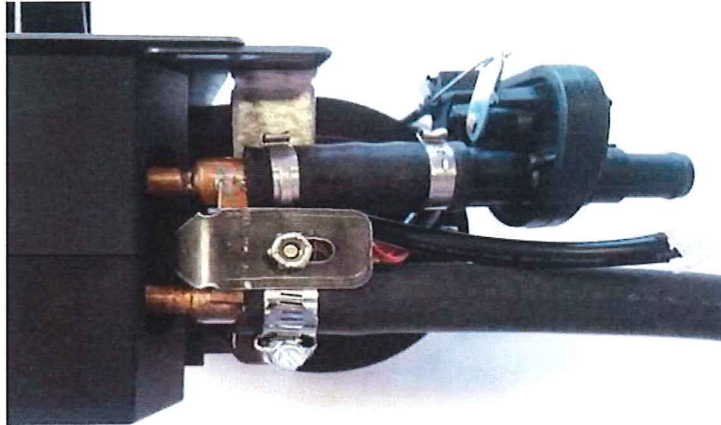

Figure 7
31. Attach the heater hoses to the heater unit and secure with the #10 Hose Clamps (**note: the lower hose clamp placement in Figure 7**):
32. Install the Heater Core Support Bracket to the hoses as shown in Figure 7. **Do not over tighten.**